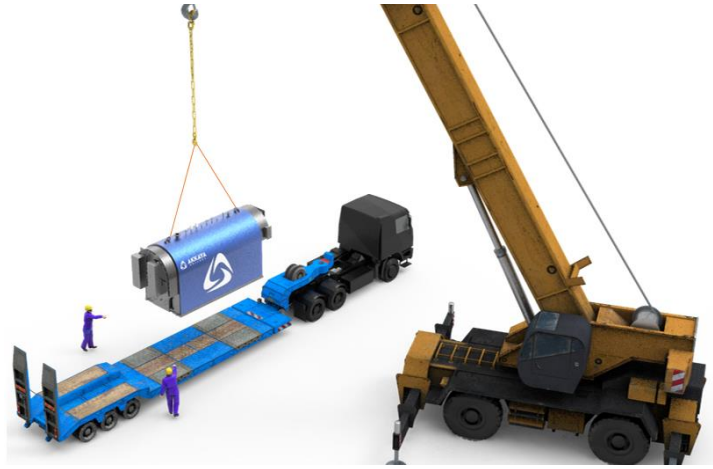

Figure 3.1.1 Placing Boiler on Transport Vehicle
- 3- Lifting eyebolts of the boiler must be used while lifting to place it on the vehicle. (In Figure 3.1.1)